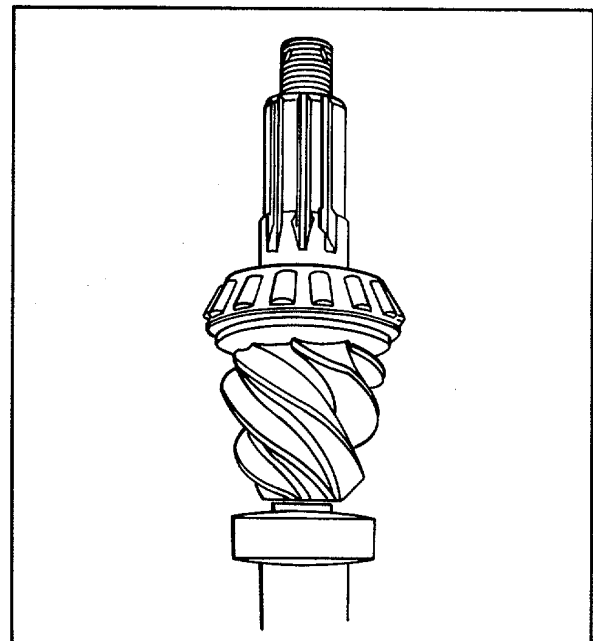

Figure 1.
1. Press rear thrust and radial bearings firmly against the pinion shoulders with a suitable sleeve (refer to Fig. 1).